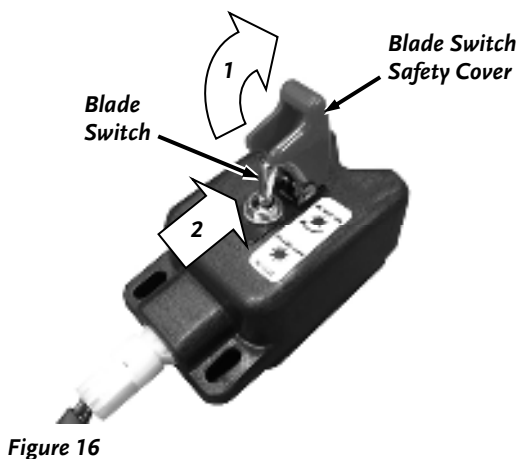

Figure 16
- Engage the Blades by pulling up on the Blade Switch Safety Cover and pushing forward on the Blade Control Switch (**Figure 16**).
- Push down on the Blade Switch Safety Cover (**Figure 16**).